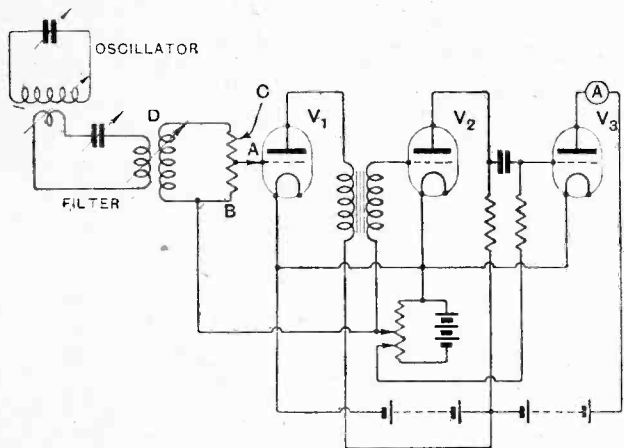

Fig. 21.—Circuit used to determine transformer curves.
In the experimental work associated with the measurement of amplification curves of the iron-cored transformers described in Parts I to IV, a valve  $V_2$  is resistance coupled to a rectifier, as in Fig. 21. (This is reproduced from Fig. 5, Part II, November 17th issue.) The effect of this valve on the performance of the 1.5 mil iron transformers Nos. 1 and 2 will now be discussed. This course was pursued during the experiments to show the profound influence of inter-electrode capacity at supersonic frequencies, especially with transformers the natural self-capacity of which was small.
Neglecting the filament to anode capacity, the equivalent circuit on the secondary of the transformer of Fig. 21 is shown in Figs. 22, 23.  $C_2$  is the filament to grid capacity, including the capacity of the valve holder and
$C_3 + C_2$  is placed across the secondary of the transformer. The measured values of  $C_1, C_2, C_3$  for valve  $V_2$  of Fig. 21 taken in the valve holder are given in Table XI.
TABLE XI.—INTER-ELECTRODE CAPACITIES OF VALVE  $V_2$  OF FIG. 21.
Fig. 23.—Equivalent circuit to input impedance of valve  $V_2$  of Fig. 21.  $C_4 = (\eta + 1)C_3 + C_2$  where  $C_2 = F$  to  $G$  capacity of  $V_2, C_3 = A$  to  $G$  capacity of  $V_2, r =$  resistance which is positive in value. The self-capacities of the windings have been omitted.
37 micromicrofarads was due to the valve  $V_2$  of Fig. 21. Hence the equivalent secondary capacity of each transformer when the winding is quite free is  $C = 62 - 37 = 25$  micromicrofarads. The various data associated with the transformers under the two conditions, (1) the secondary winding "loaded" by the input impedance of  $V_2$  of Fig. 21, (2) the secondary winding free or unloaded, are arranged in Table XII.
Under the heading "Transformer Design" in Part III, November 24th issue, we quoted results obtained with a transformer having staggered primary and secondary windings. This construction was tried to see whether the effective primary capacity could be minimised by reducing the mutual capacity between the primary and secondary windings. Using a 3/1 transformer with the same core and turns as No. 11, and with six sections on each winding, the effective primary capacity was 480 micromicrofarads, as compared with 560 micromicrofarads for the normal construction. Now, the inter-electrode capacities of  $V_2$  in Fig. 21 accounted for 335 micromicrofarads (the difference between row 1, columns 4, 5, Table XII), so that the effective primary capacity of the staggered windings is  $470 - 335 = 135$  micromicrofarads. Dividing this by the square of the ratio, we obtain the equivalent secondary capacity  $C = 15$  micromicrofarads, as against 25 micromicrofarads for the normal construction, a reduction of 40 per cent. Unfortunately, this transformer has been mislaid, and I am unable to check the foregoing result experimentally. The difference seems rather larger than one would expect, but, as we have already seen from Table VI, Part III, page 716, of the November 24th issue, the mutual capacity of the standard or normal transformers is large compared with the self-capacity. In making measurements on the effective primary capacity, the conditions should be such that the capacity added due to the valve (in this case  $V_2$ ) is relatively small. In practice, unless the valve capacity is neutralised, the advantage of reduced capacity due to staggered windings will not be utilised to any degree.